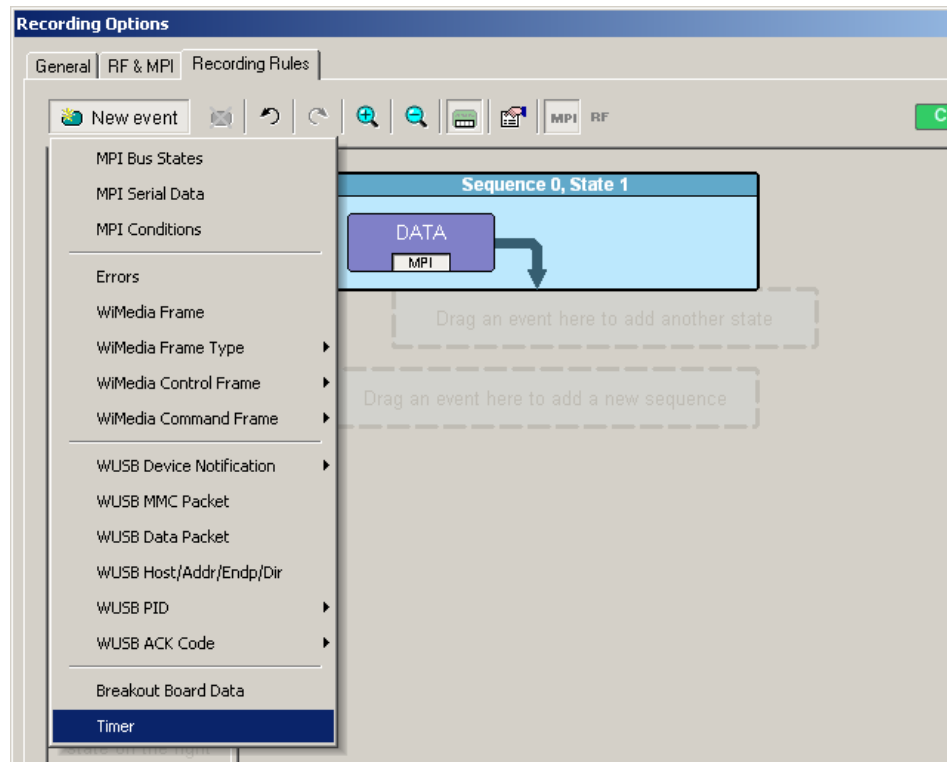

Figure 7.32 Example 5: Creating an Event, Second State
Step 6 Click the **New Event** button. From the drop-down menu, select **Timer** to create a Timer button in the Available Events area (Figure 7.32).